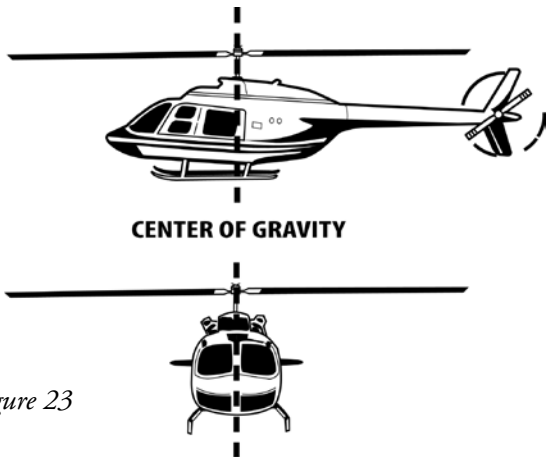

Figure 23
**Center of Gravity (CG)** is the point where the helicopter is in balance and most of the weight is concentrated. Draw an imaginary line through the center of the rotor mast, from the top of the mast to the bottom of the helicopter. This would be the center of gravity (Fig. 23). Ideally, the helicopter should be in perfect balance. The fuselage will remain horizontal in hovering flight, with no cyclic pitch control required. Center of gravity is located directly under the rotor; the helicopter hangs horizontal.